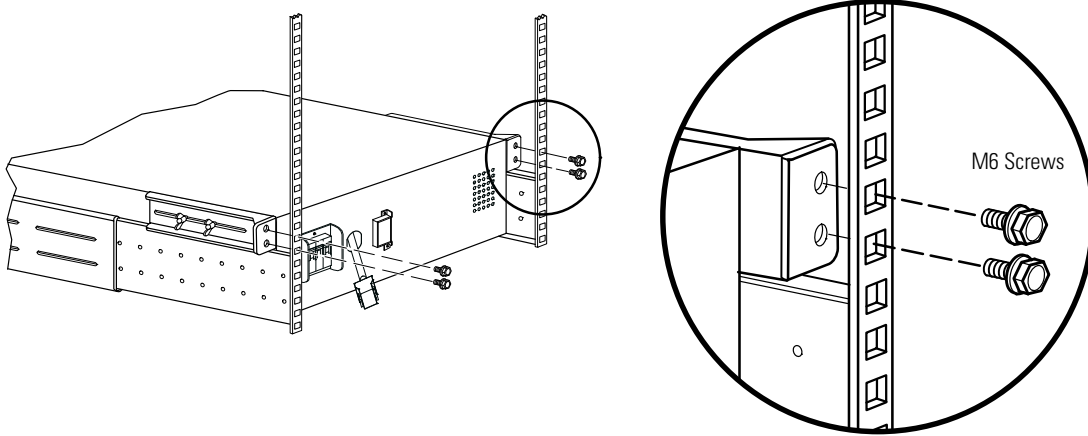

Figure 9. Securing the Optional EBM Seismic Mounting Brackets
- 16. If the optional seismic mounting brackets are installed, secure the brackets on the EBM to the rack using four M6 machine screws as shown in Figure 9.